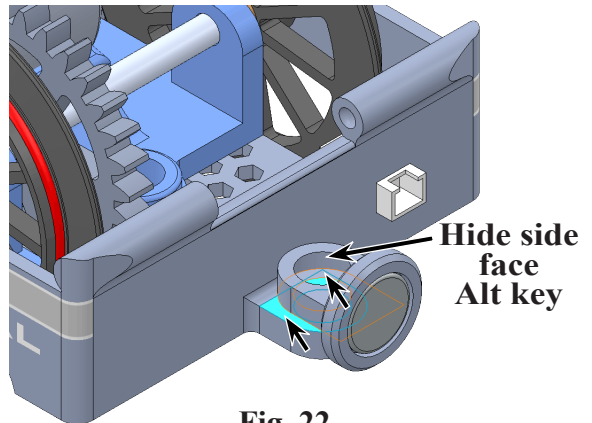

Fig. 22
Step 4. Click **top face of hitch in Chassis** and **hide side face of Coupler lug**, click **bottom face**, **Fig. 22**. To hide face, hover cursor over face and press **Alt** key.